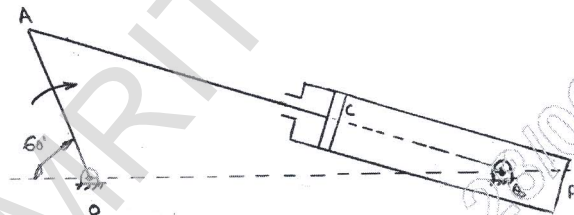

Fig. Q3
- 3 In the mechanism shown in Fig. Q3 line  $OA = 320$  mm,  $AC = 680$  mm and  $OQ = 650$  mm. Determine (i) the angular velocity of the cylinder. (ii) the sliding velocity of the plunger. (iii) the absolute velocity of the plunger. when the crank  $QA$  rotates at  $20$  rad/sec CW. (20 Marks)